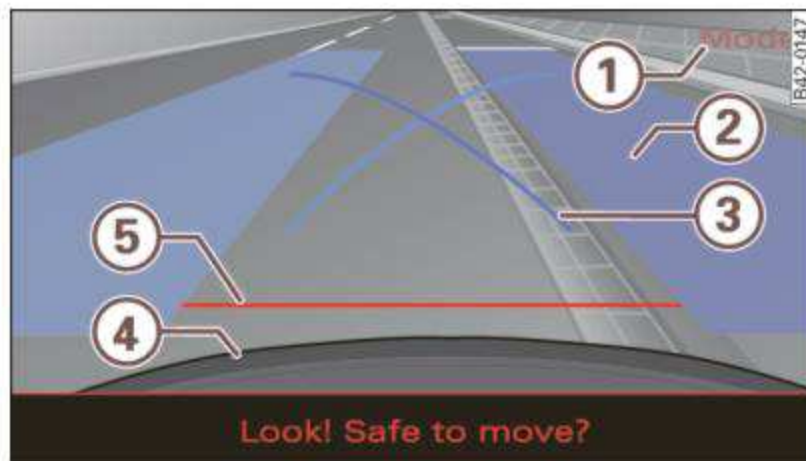
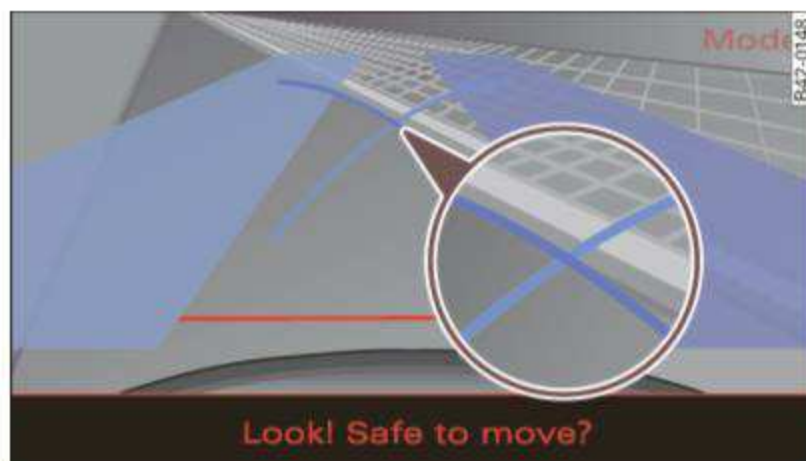

Fig. 79 Navigation system display: Blue surface aligned with parking spot
Fig. 80 Navigation system display: The blue curved line contacting the curb
- Press **Mode** (1) on the navigation system control button. Parking mode 2 appears ⇒ fig. 79.
- Back up and adjust the position of your vehicle so that the blue area (2) borders on the rear end of the vehicle or on the parking spot line. The blue area represents an extension of the vehicle's outline by approximately 5 m to the rear. The long side of the blue area should be on the curb. The entire blue area must fit into the parking spot.
- Stop the vehicle as soon as the blue curve (3) touches the curb ⇒ fig. 80.
- Continue to back up into the parking spot until the vehicle is parked parallel to the curb. (4) marks the rear bumper. You should stop driving in reverse when the red orientation line (5) meets an object, at the latest ⇒ ⚠. Watch the front of the vehicle while doing this ⇒ ! ▶
You will also need to start turning the steering wheel much earlier. There should be a sufficient amount of space between the curb and the blue curve, and the blue curve \Rightarrow *page 99*, fig. 80 must **not** touch the curb.